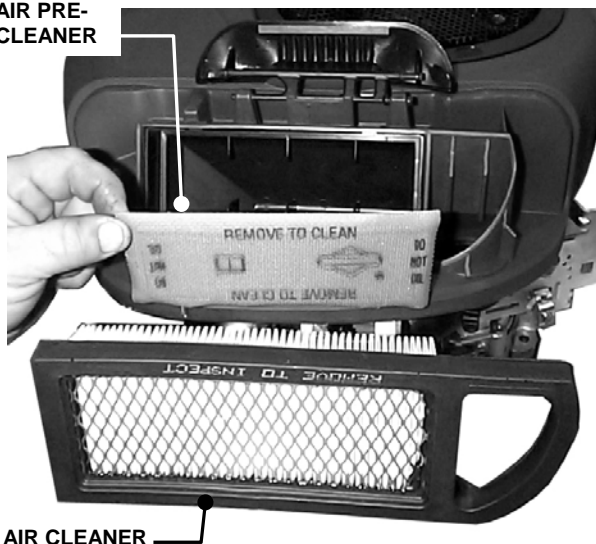

FIGURE 3.5
b. Refer to engine owner's manual for cleaning and service instructions. Remove and clean engine air pre-cleaner. Remove and replace engine air cleaner. See Figure 3.5. Install pre-cleaner and air cleaner per engine owner's manual.